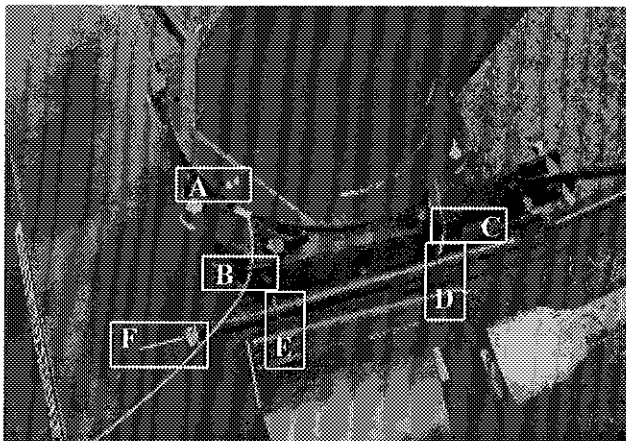

Figure 20
- 3) **Figure 20:** Turn chute counterclockwise until wire clamp (A) is near cable guide (B). Insert end #2 through guide (B) and leave it momentarily. Insert end #1 through cable guide (C) and then into spindle opening (D) and push it all the way through the end (F). Secure it temporarily with the 1/8" cable clamp and flat washer provided.